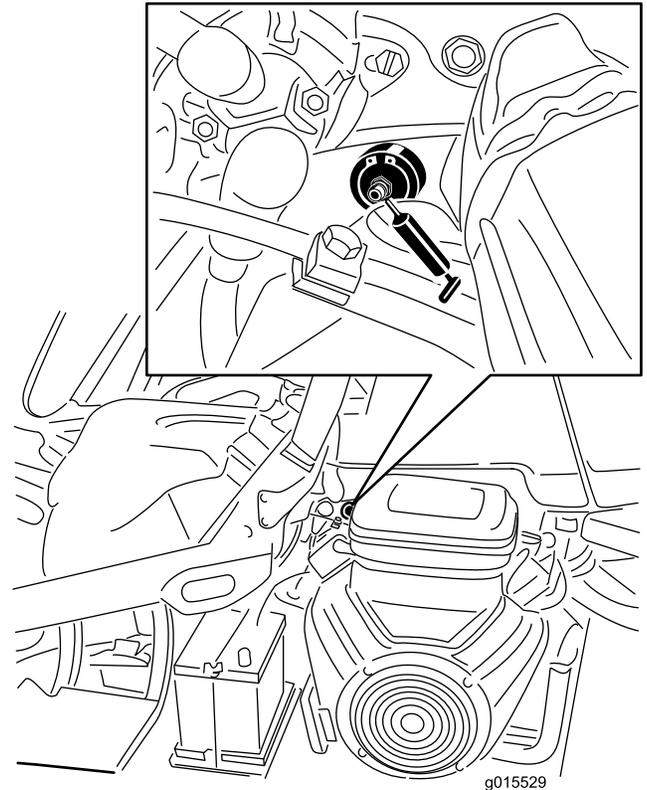

Figure 25
1. Wipe the grease fitting clean so foreign matter cannot be forced into the bearing or bushing (Figure 25).